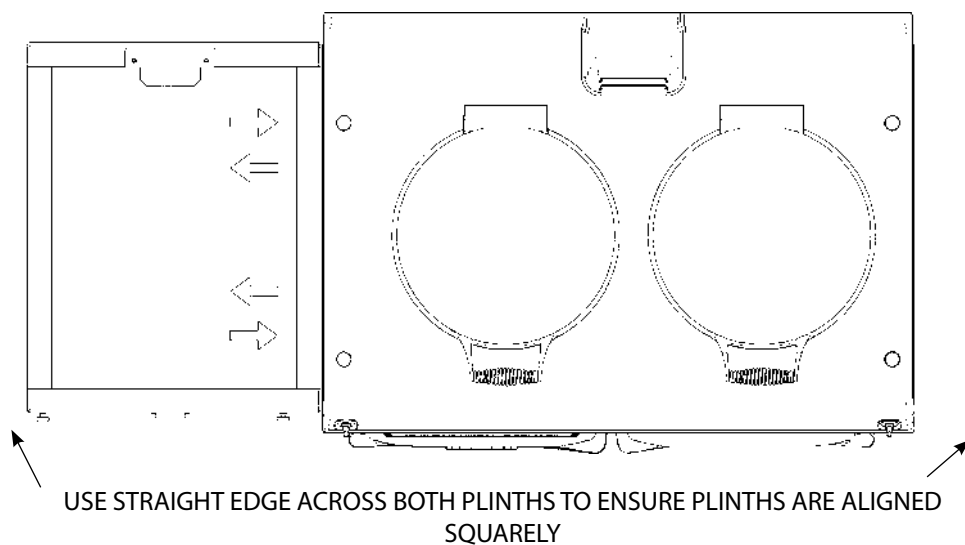

Fig. 30.5
4. Run a straight edge along the front of the AGA eR7 plinth, to ensure the front face of both plinths sit squarely against the straight edge. (**Fig. 30.5**)